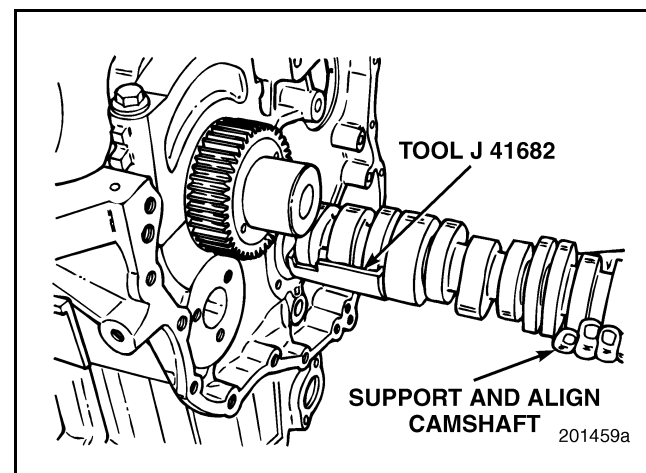

Figure 351 — Camshaft Installation
5. With the engine still rotated 180 degrees (crankcase facing up, head deck facing down), position the camshaft in the block with the cam installation guide facing down toward the floor as shown in Figure 351.